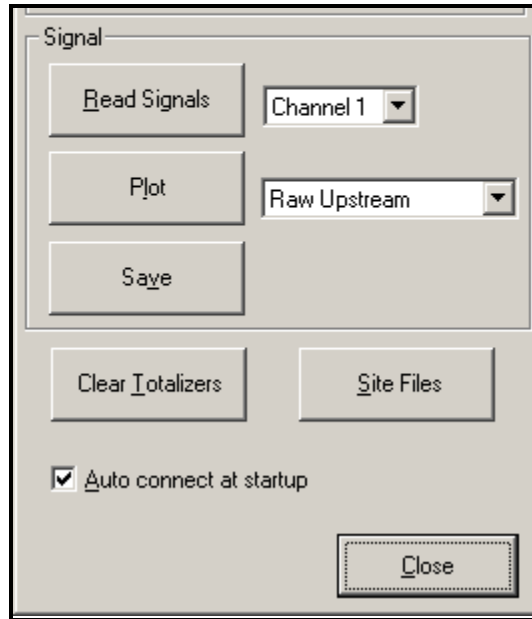

Figure 28: Active Signal Options in Properties Window
1. Click on the *Read Signals* button. (If the meter is a multi-channel instrument, open the Channel drop-down menu and click on the desired channel.) After a moment, the *Properties* window appears similar to Figure 28 below.